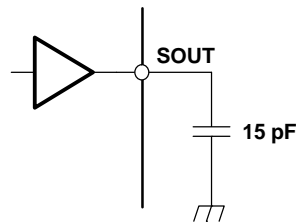

Figure 5. Test Circuit for t_{r0} , t_{f0} , t_{d0} , t_{d1}
- (1) See Figure 5. Defined as from 10% to 90%
- (3) See Figure 5, Figure 13